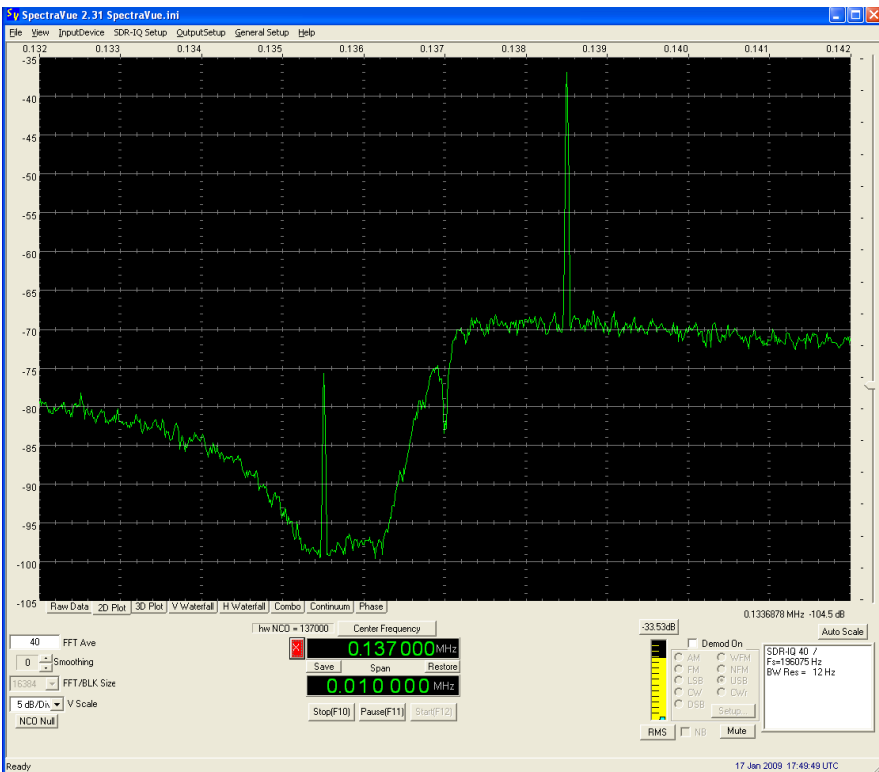

Figure 3 Centre Freq 137kHz , adjusted all-pass network
Figure 3 shows a similar plot at 137kHz centre frequency – note that the carrier rejection is now better, it is not visible here and at least –45dBc. The all-pass network has been slightly adjusted for a more uniform response over 1000 – 1500Hz, but sideband rejection is still more than 35dBc.
- [1a] - <http://www.g4jnt.com/IQConverters.htm> Fig 3